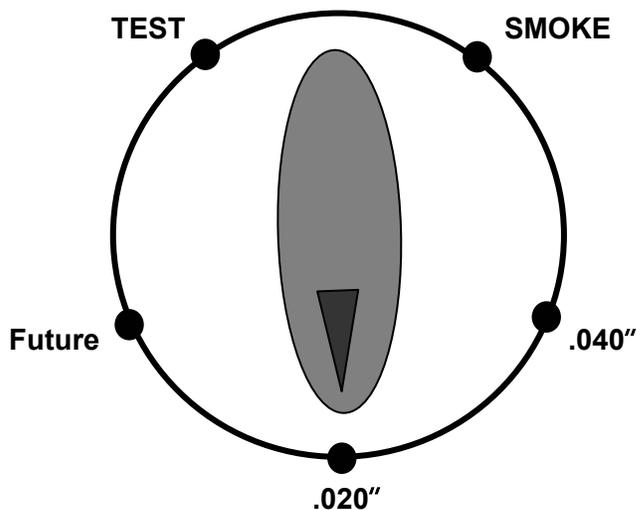

Figure 1
2. Determine if the vehicle's EVAP system you are testing is governed by a .040" or .020" acceptable leak requirement standard. Position the Selector Switch, on the EVAP-II's control panel, to the correct standard. (See Figure 1)